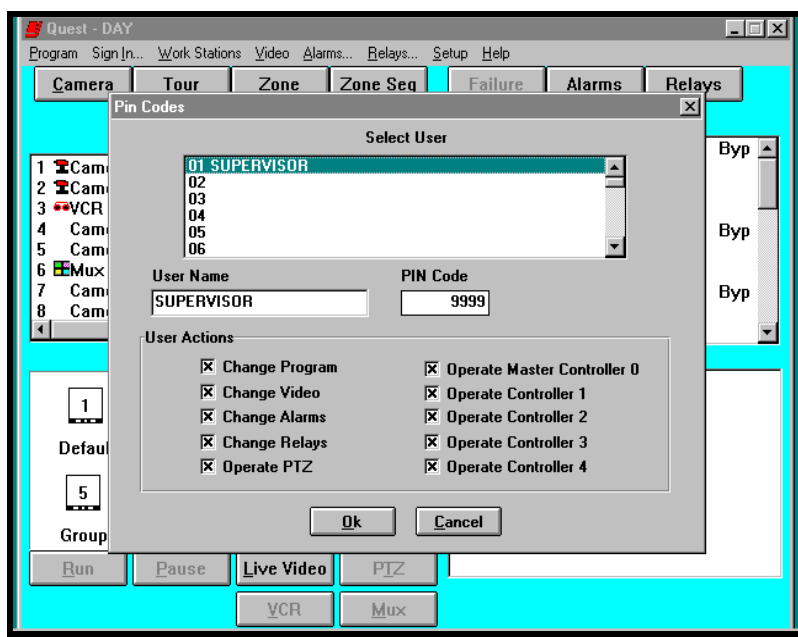

Figure 3-22. PIN Code Setup Window
The PIN Codes window, illustrated in Figure 3-22, allows the operation of the system to be tailored to the needs of up to 36 users. You can assign: names, PIN numbers, and user actions. The user actions include: (1) allow the user to make changes to the program, (2) switch video, (3) respond to alarms, (4) operate relays, (5) operate pan/tilt cameras, and (6) access specific control panels.